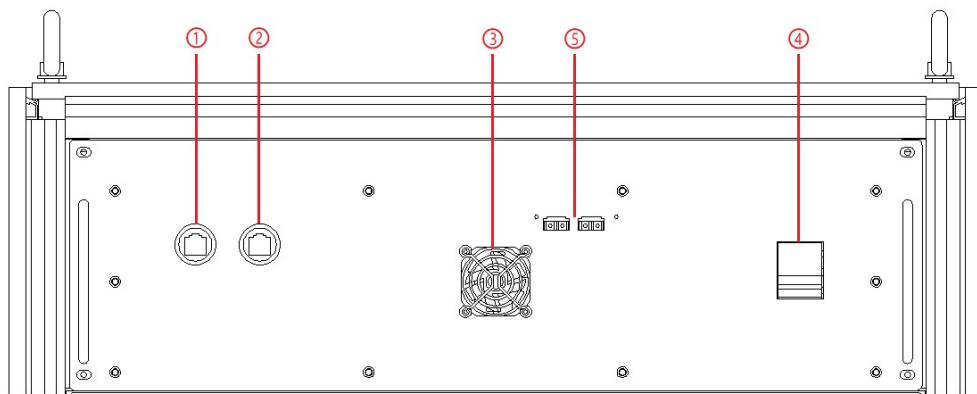

Figure 3-10 Front panel of control module
Step 3: Open the cabinet door and power off the control unit switch (Figure 3-10④).